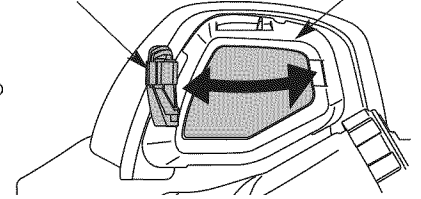

Fig. 34
7. Reinstall the air filter cover. Position the two small tabs on the air filter cover into the two slots in the back plate and press the air filter cover down, making sure to align the lock tab with the lock tab slot, until it snaps into place (Fig. 34 & 33).